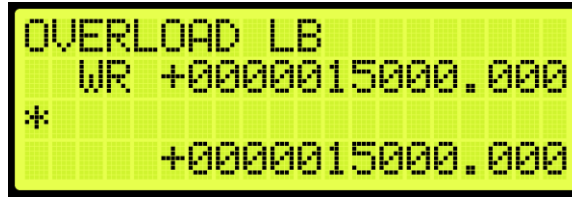

Figure 24: OVERLOAD LB Menu
8. Scroll and select OVERLOAD LB (See Figure 24).